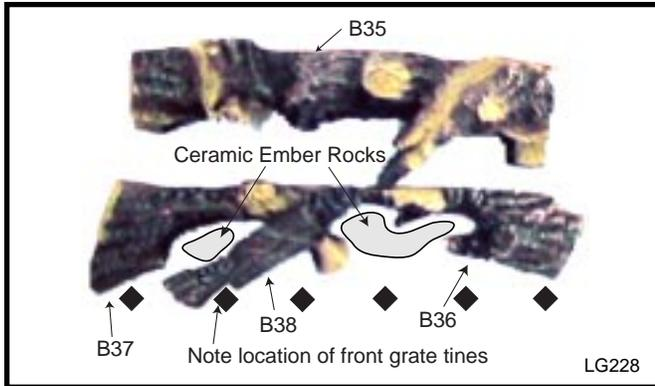

Fig. 44 DVRT39 logset and ember placement
**DVRT39** - Refer to Figure 44.
3. Fit the **rear log (B35)** onto the rear log support. The two (2) holes in the log locate on the two (2) studs on the support.
4. Fit the **right-front log (B36)** onto support bracket over the right side of the burner housing assembly. The two (2) holes in the log locate over the two (2) studs of the bracket.
5. Fit the **left-front log (B37)** onto the support bracket over the left side of the burner housing. Again, the two (2) holes in the log locate on the two (2) studs on the bracket.
6. Place the **left-top log (B38)** in place. The notch along the lower front edge sits against the front grate (Fig. 44), and the top of the log sits in the cutout on the inner end of log B37.
7. Scatter the **Ceramic Ember Rocks (Part #57897)** over the burner housing assembly in the areas between the logs. Refer to shaded areas in Figure 44.